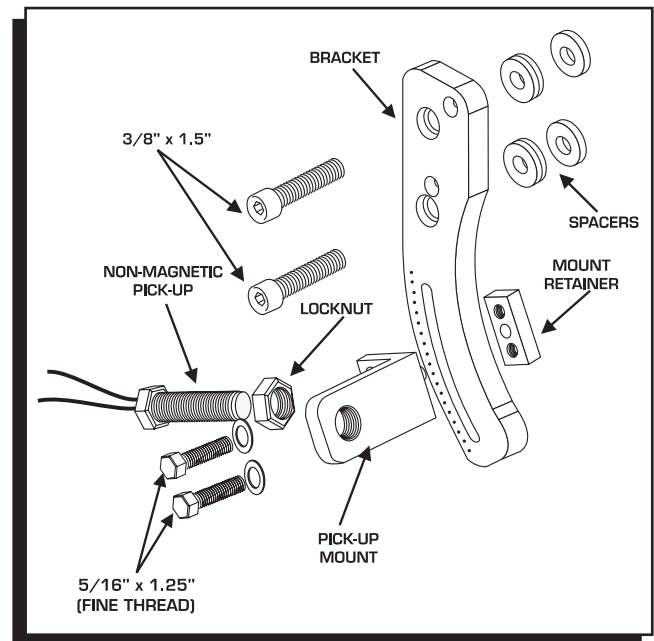

Figure 1 Pickup Bracket Assembly.
1. Install the pickup mount onto the bracket using the two fine thread bolts (Figure 1). The mount retainer will only install one way, do not try to force the bolts in. Hand tighten the bolts.